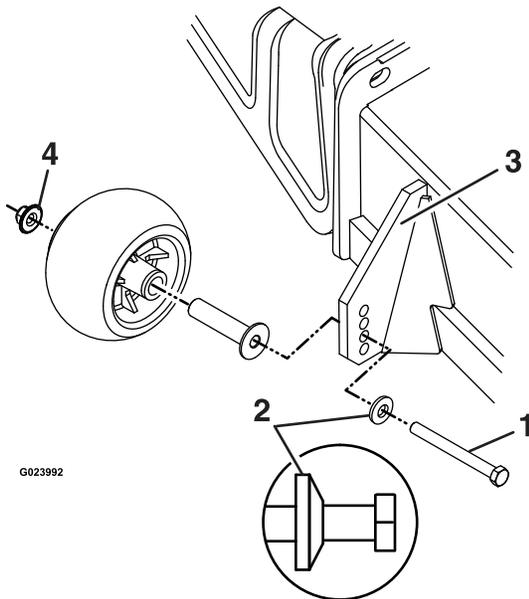

Figure 18
- A. Be sure the roller bolts are installed with the spring disc washer between the head of the bolt and the mounting bracket (see Figure 18).